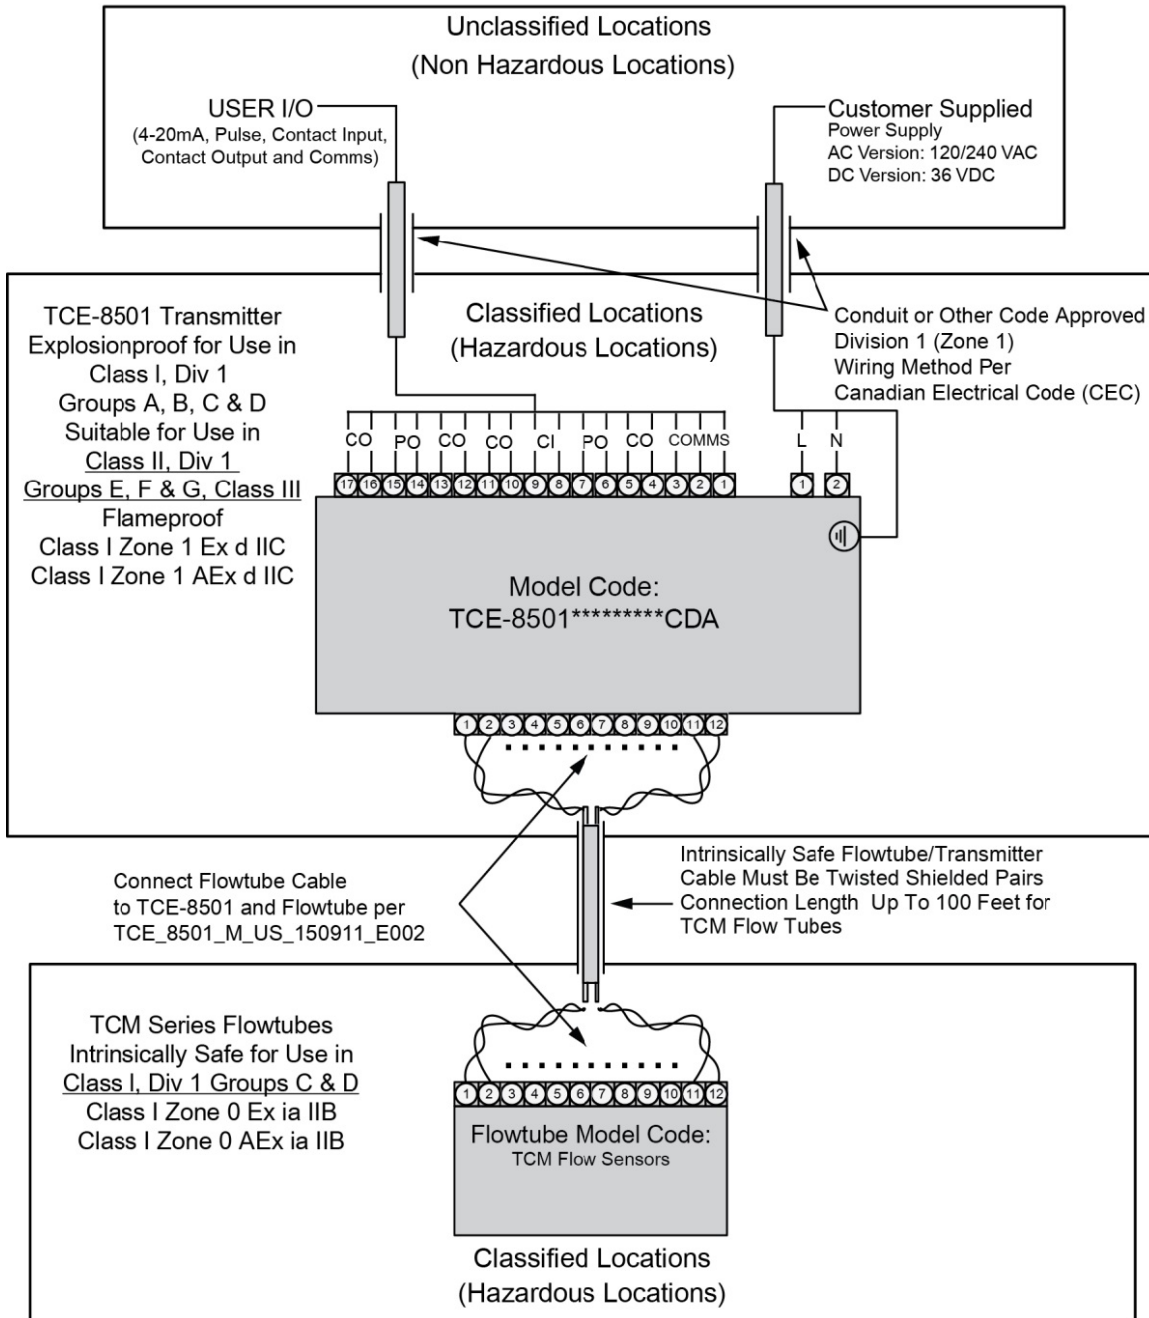

Fig. 5: CSA International, Flow Sensor in Class I, Division 1 (Intrinsic Safety) and Transmitter in Class I Division 1 (Explosionproof)
1. Figure 5 must not be revised without prior CSA approval.